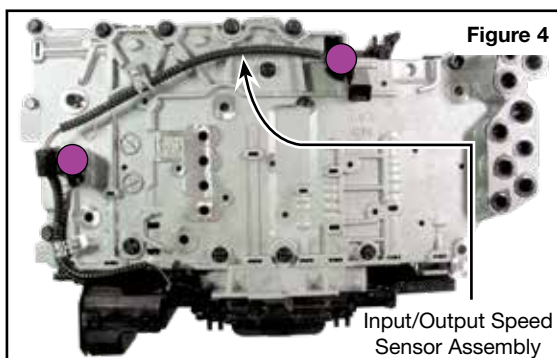

Figure 4
- Remove two bolts (8mm head) and input/output speed sensor assembly (Figure 4).